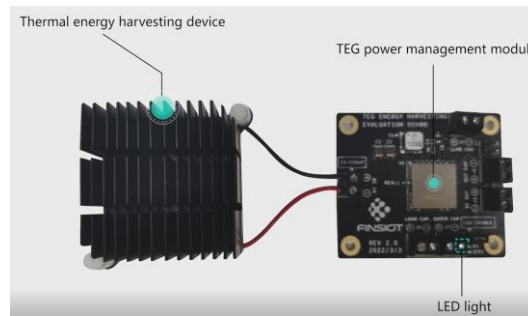

Figure 3
- Prototype using thermal energy (Figure 3) [11]